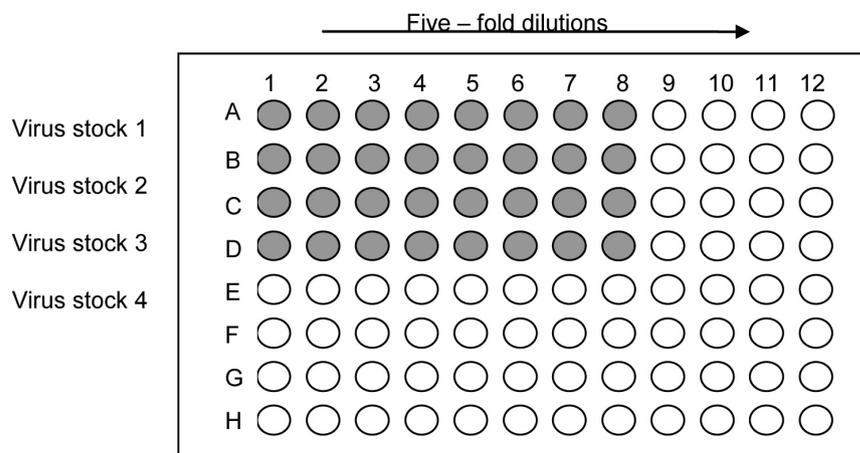

Figure 3. Five-fold serial dilutions of virus stock.
2. Make dilutions of the viral stock in a round bottom 96-well plate using Dilution Media (DMEM containing 0.5% FBS and 8 µg/ml polybrene). Utilize the plate as shown in Figure 3 using one row for each virus stock to be tested. Use the procedure below (starting at step 4) for dilution of the viral stocks. The goal is to produce a series of 5-fold dilutions to reach a final dilution of 390625-fold.
11. Transduce cells by adding 25 μ l of diluted virus from the original 96-well plate (Figure 3) to a well on the 24-